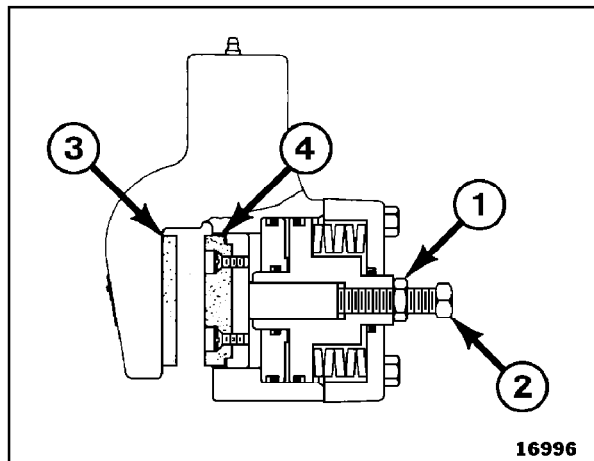

Figure 5 MANUAL RELEASE OF BRAKE CALIPER
- 3) Loosen hex nut (1, Figure 5) and turn adjustment set screw (2) counterclockwise ("OUT") until brake pads (3 and 4) are clear of brake disc.